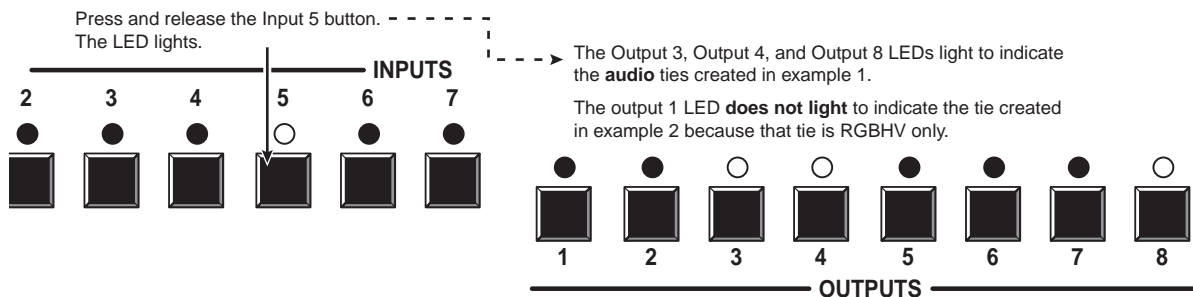

Figure 3-18 — Select an input
3. Press and release the input 5 button (figure 3-18).